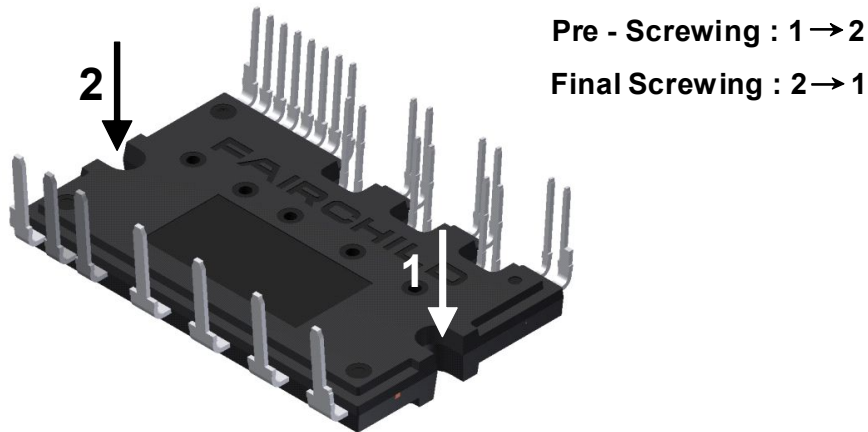

Figure 9. Mounting Screws Torque Order
12. Avoid one-side tightening stress. Figure 9 shows the recommended torque order for mounting screws. Uneven mounting can cause the ceramic substrate of package to be damaged. The pre-screwing torque is set to 20 ~ 30% of maximum torque rating.